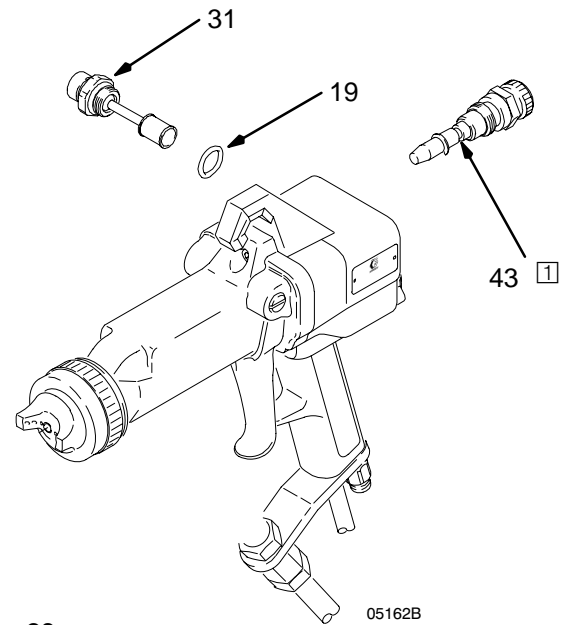

Fig. 23
3. Remove the atomizing air valve (31) and o-ring (19). See Fig. 23.
5. Apply PTFE paste to the fan air valve (43) housing threads and install the valve in the handle. Torque the housing to 10 to 12 in-lb (1.1 to 1.4 N•m).